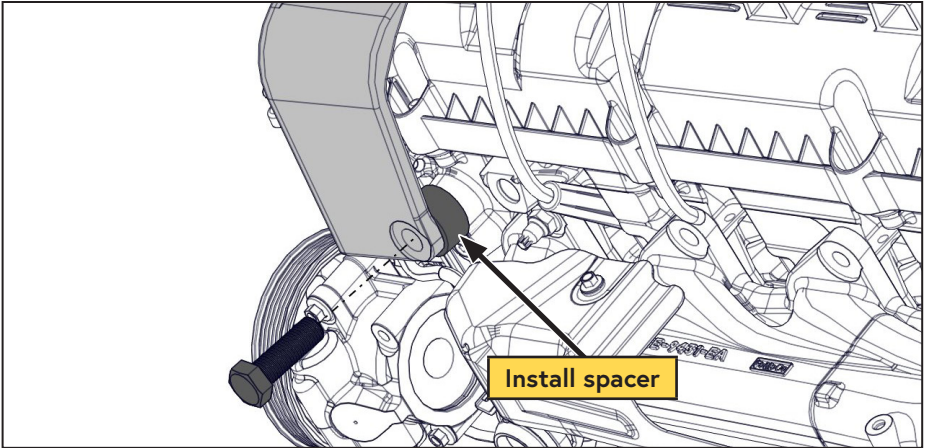

Figure 17 — Install main bracket spacer
- Install the spacer between the engine block and the main bracket and secure it with the supplied M16 fastener, do not torque it (Figure 17).